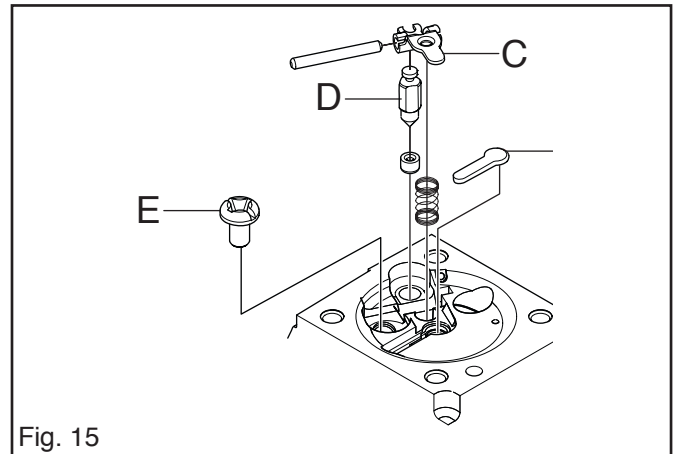

Fig. 15
5. Fit the needle valve (D) with lever (C), spindle and spring and tighten the screw (E). Fit welch plug (K). See fig. 15.
1. Mount the filterholder with carburettor and choke system. Connect the rear rubber mounts (H). Check that the choke is fitted in the right position in the partition. See page 47, fig. 15.
2. Mount 4 bolts (G) which secure the filter holder, carburettor and choke system.
3. Mount the fuel pipe (B).
4. Connect the throttle cable (A).
6. Mount the carburettor control (D).